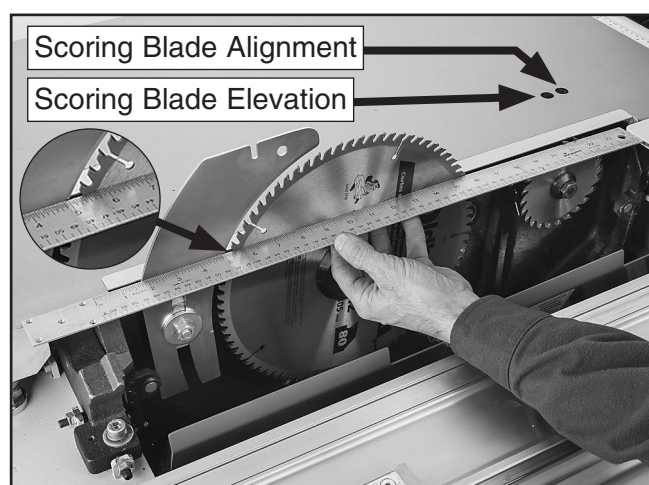

Figure 37. Access holes for scoring blade adjustment controls.
30. Use straightedge to make sure riving knife or splitter/riving knife and scoring blade are aligned with main blade, as shown in **Figure 37**. Alignment should be with blade bodies, not carbide teeth (see inset).
— Scoring blade alignment can be changed by adjusting bolt accessible through table top (see **Figure 37**). See **Aligning to Scoring Blade** on **Page 48**.